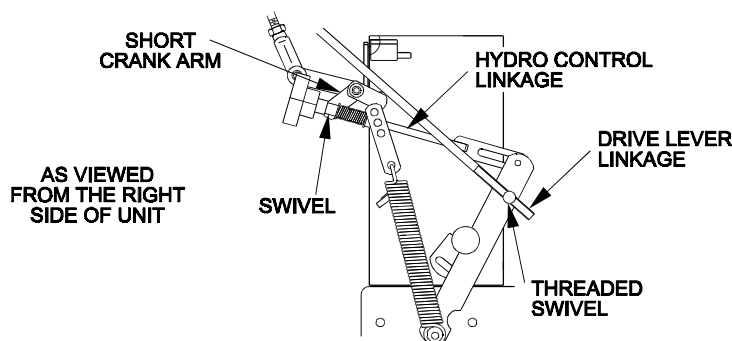
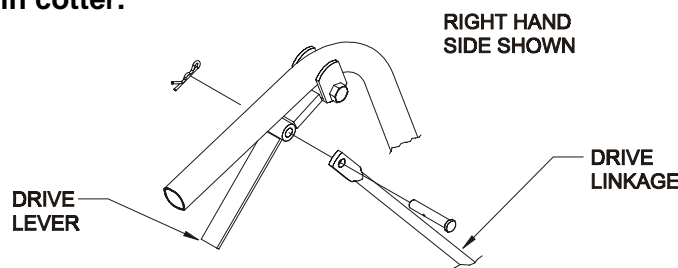

FIG. 3
FIG. 4
Install a 5/16" SAE washer and fasten with a 3/32" x 1/2" cotter pin from bolt bag. Repeat on opposite side of unit (See Figure 3).
- 3.15 Thread each drive linkage into the threaded swivel. (See Figure 3). Connect the upper end of each drive linkage to the drive levers. Fasten with a long clevis pin and hairpin cotter from bolt bag. Be sure the clevis pin is first inserted through the drive linkage and then through the drive lever from the outside before installing the hairpin cotter (See Figure 4).